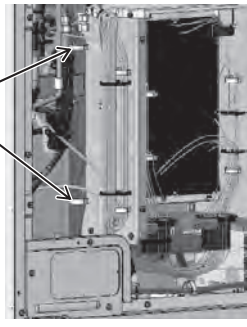

Figure 9
- (12) Loosen the two cable straps holding the strong electrical wiring outside the main control box. (See Figure 9.)